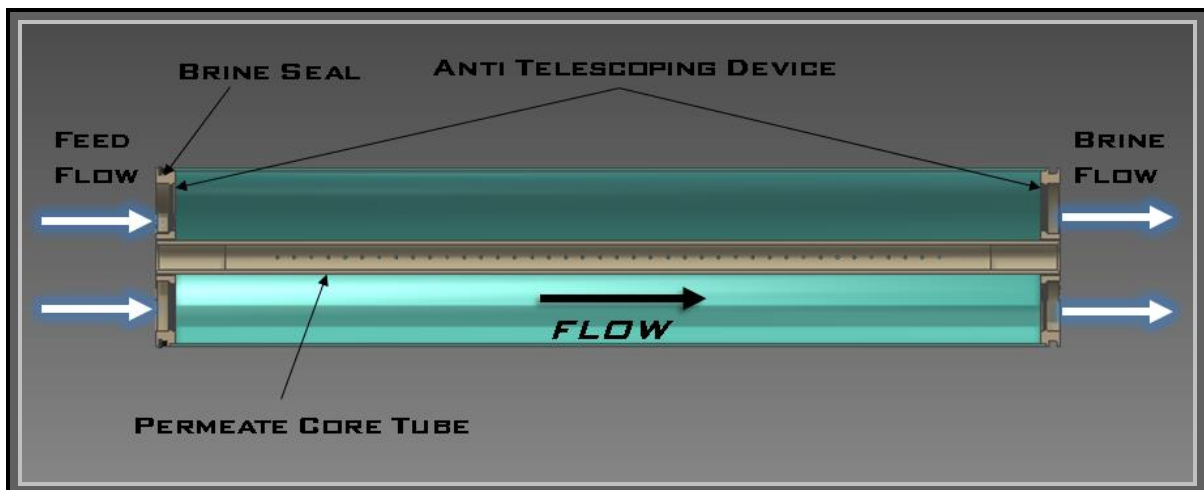

Figure 1 - Element Loading Direction
4. Gently slide the first element into feed side of the pressure vessel three-quarters of the way and remove the plastic bag. **Note:** Always load elements in feed flow direction with brine seal properly seated in seal groove of anti-telescoping device (ATD) and facing the flow direction. If the element uses a V-cup brine seal, ensure that the V-cup seal opens in the flow direction – Figure 1.